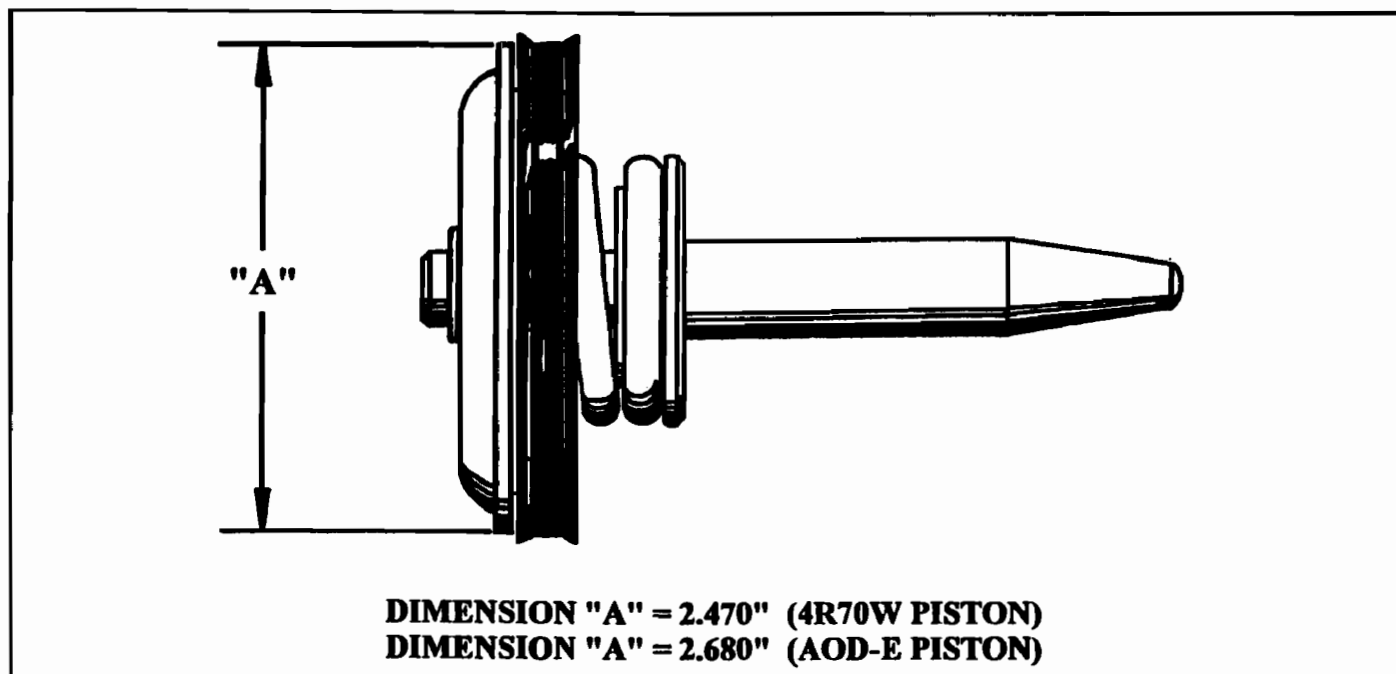

Figure 5
**CORRECTION:** Install the "Rubber Coated Sleeve" in the Overdrive Servo Assembly, as shown in Figure 6. If your rubber coated sleeve is missing or lost, you **MUST** buy the complete Overdrive Servo Assembly, available under OEM part number F3LY-7H188-A. It is not available individually. Overdrive servo piston dimensions are shown in Figure 5, to identify the two different overdrive pistons.